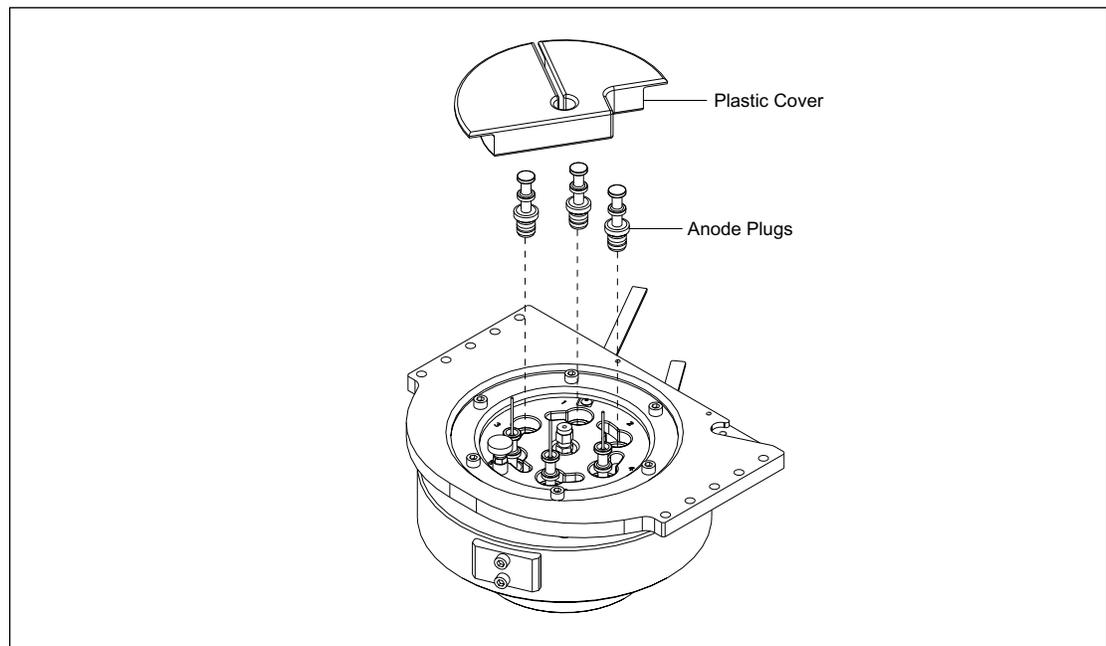

Figure 8-12. Anode Plugs and Plastic Anode Cover.
1. Install anode plugs in positions 1, 2, and 3 (figure 8-12).